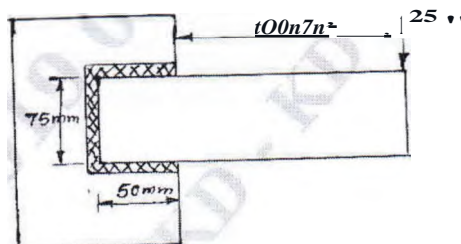

Fig. Q7 (b)
- b. Determine the size of weld required for an eccentrically loaded weld as shown in Fig. Q7 (b). The allowable stress in the weld is 75 MPa. (08 Marks)